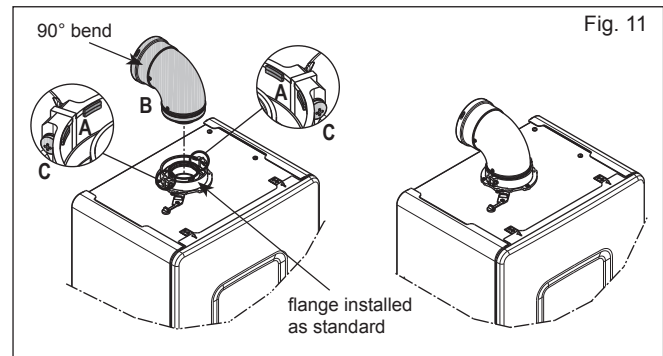

Fig. 11
**NOTE - fig. 11:** the appliance incorporates a 'click-fit' flue connection. Ensure that both screws 'C' on the 'click-fit' have been slackened off. Ensure that the bend is correctly aligned with the connector and insert the flue bend into the connector until it clicks into position (this is when the tabs at points 'A' are located in the groove of the flue bend. Both screws (C) should now be tightened.
**NOTE - fig. 11:** the appliance incorporates a 'click-fit' flue connection. Ensure that both screws 'C' on the 'click-fit' have been slackened off. Ensure that the bend is correctly aligned with the connector and insert the flue bend into the connector until it clicks into position (this is when the tabs at points 'A' are located in the groove of the flue bend). Both screws (C) should now be tightened. The additional bends & extensions have push-fit connections, care should be taken to ensure that the correct seal is made when assembling the flue system. Connect the required number of flue extensions or bends (up to the maximum equivalent flue length) to the flue terminal (see fig. 11-14). The flue system should have a 3° rise from the boiler to outside, to ensure any condense fluid that forms, is allowed to drain back to the appliance.